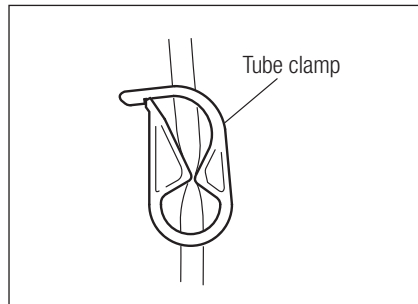

Fig.12
- 1) Close the Tube Clamp located between the Irrigation Tube Needle and the irrigation pump, as illustrated in Fig.12.